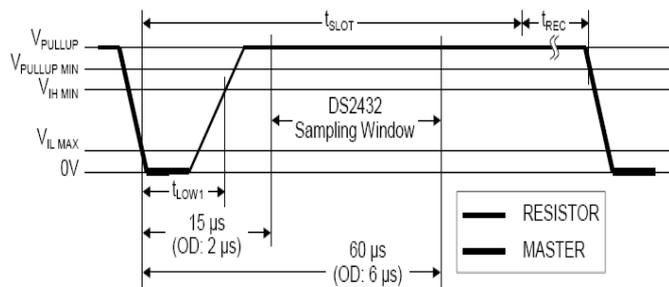

Fig4-99 - Wrote-one Time Slot
- B. Write 1: If the sampling is high, 1 is generated (Note: Read 1 is of a similar waveform pattern) as in Fig4-99: